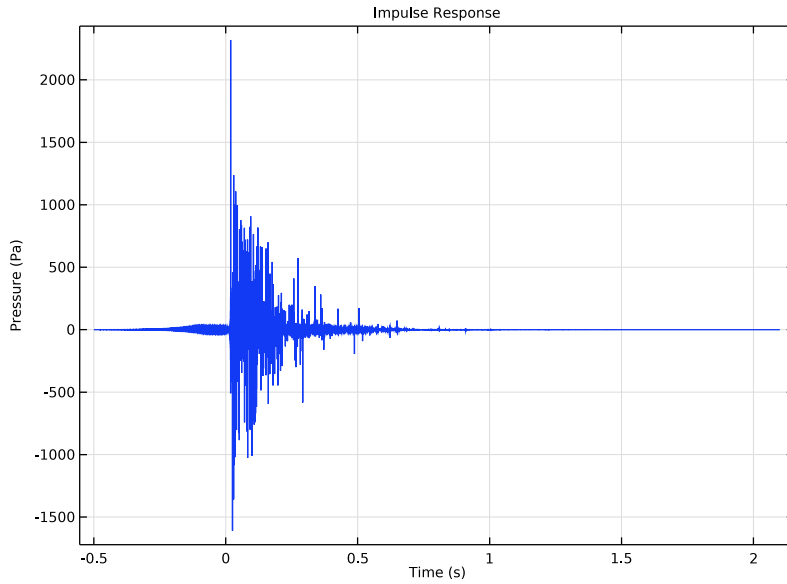
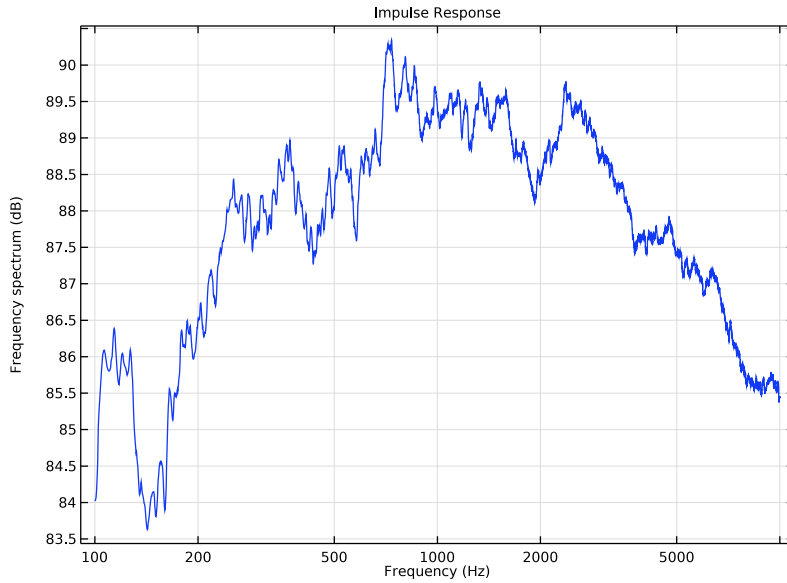

Figure 4: Temporal impulse response computed at the receiver location.
Figure 5: FFT of the impulse response (1/3-octave running average).
The temporal impulse response (IR) for the source and receiver configuration used in the model is depicted in Figure 4. The frequency domain (FFT) of the IR is depicted in Figure 5. The curve is smoothed with a 1/3-octave running average.